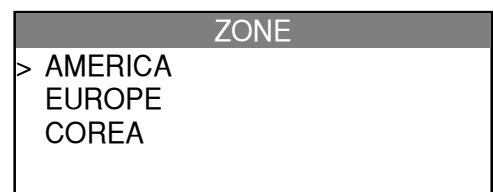

Fig. 3
- At first start or after a factory reset, the work zone is asked as Fig. 3.